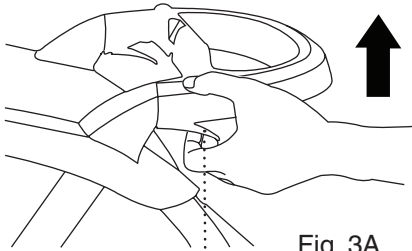
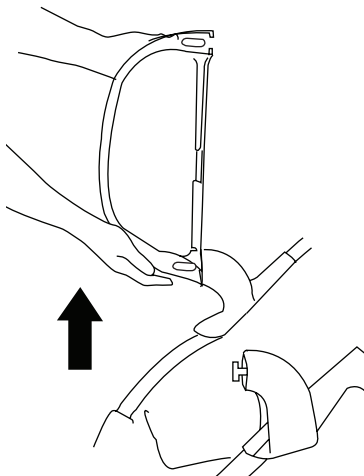

Fig. 3A
Fig. 3B
- To unlock brakes: Gently lift up on the linked brake lever. (Fig. 3A)
- To remove the child tray: Press the left and right release buttons located underneath the left and right side of the child tray (Fig. 3A), and pull upward on both sides to fully remove child tray. (Fig. 3B)